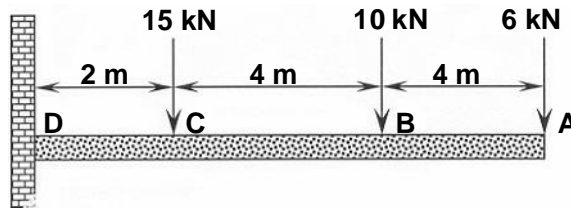

Figure 2
3.1 **Figure 2** represents a cantilever with a span of 10 metres. The cantilever is subjected to three vertical point loads. Draw the space diagram to the given scale and do the following: